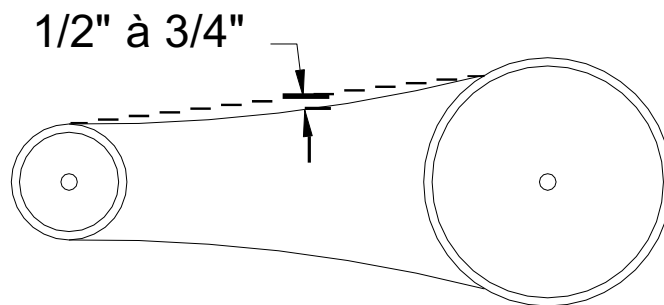

Fig.1
- Figure 1, illustrated below, shows the recommended distance for belt tension. To re-tension belts, switch OFF the power to the motor. Loosen the fasteners that hold the motor to the motor mounting plate. Slide the motor to the left or right to adjust the belt tension. Belt tension should be adjusted to allow $\frac{1}{2}$ " to $\frac{3}{4}$ " of deflection per 1 foot of belt span. Ensure that when adjusting V-belts as not to misalign pulleys. Any misalignment will result in a reduction in belt life and produce squeaky noises. Over tightening will cause excessive belt and bearing wear as well as noise. Too little tension will cause slippage at startup and uneven wear. Wherever belts are removed or installed, never force belts over pulley without loosening motor first to relieve belt tension.